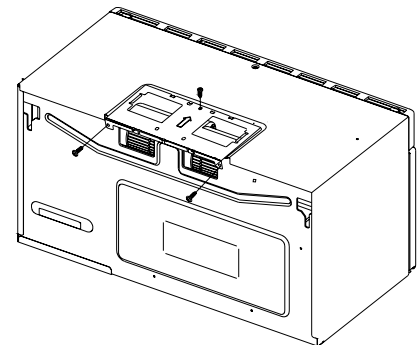

Fig. 13
5. Replace the Fan Cover Bracket by sliding it into the slits in the same direction as the arrow on the Fan Cover Bracket. Make sure the fan blades are visible through the rear openings in the oven before proceeding. See Figure 12. Attach Fan Cover Bracket to unit with 3 screws, which were removed in Step 1 above. See Figure 13. The Hood Fan Unit is now rotated for horizontal exhaust operation.
4. Replace the Fan Cover Bracket by sliding it into the slits in the same direction as the arrow on the Fan Cover Bracket. Make sure the fan blades are visible through the top openings in the oven before proceeding. Attach the Fan Cover Bracket to unit with 3 screws, which were removed in Step 1 above. See Figure 13. The Hood Fan Unit is now rotated for vertical exhaust operation.